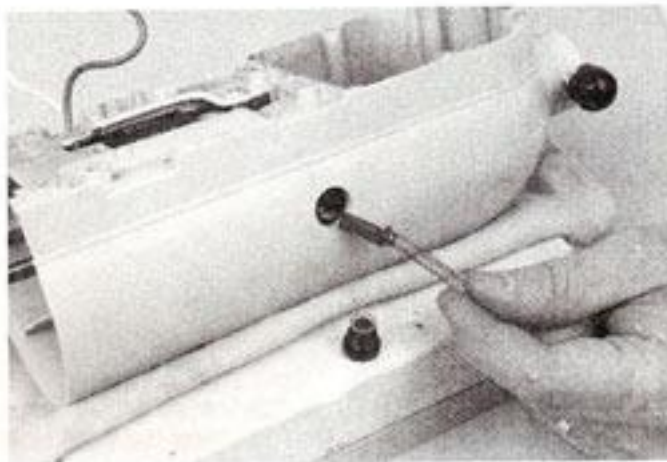

Fig. 43
- K. If the old brushes are more than $\frac{5}{16}$ " long, assemble them in the brush holders. From the back of the unit put brush marked "right" in right side brush holder, be sure the side marked "up" is at the top. Push brush in and lock it in place with a brush holder screw cap (Fig. 43). Place left hand brush in the mixer in the same way.